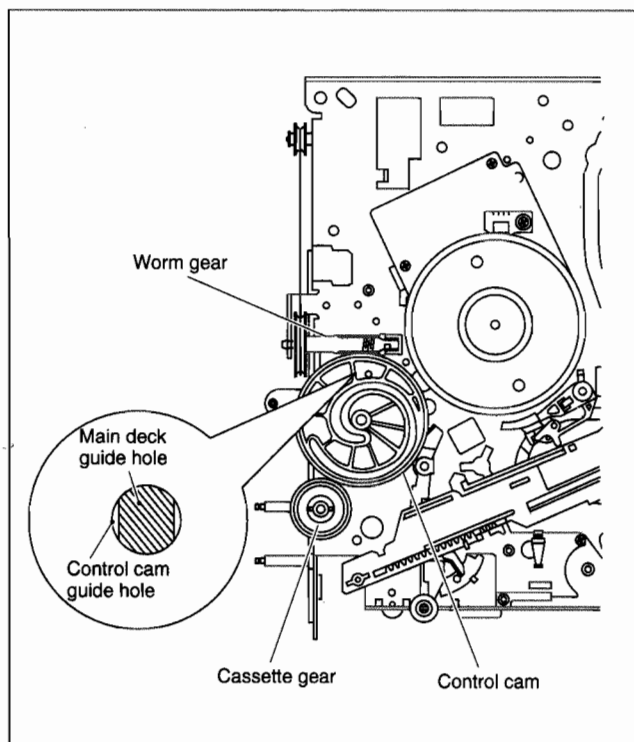

Fig. 2-2-27
- (2) Rotate the worm gear until the guide hole of the control cam is aligned exactly with the guide hole of the main deck. (See Fig.2-2-27.)